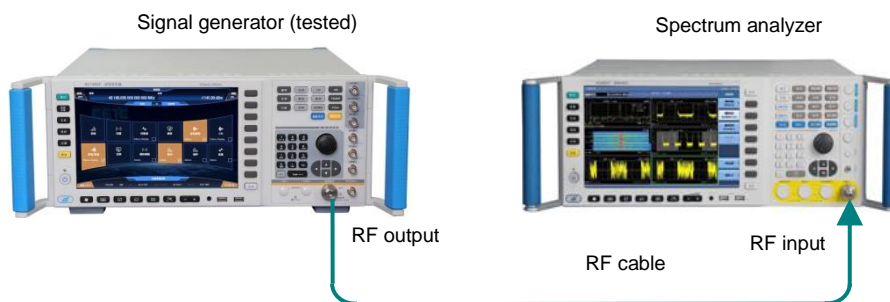

Figure 8.4 Harmonic Test
**Step 2. Connect the device as shown in Figure 8.4.**